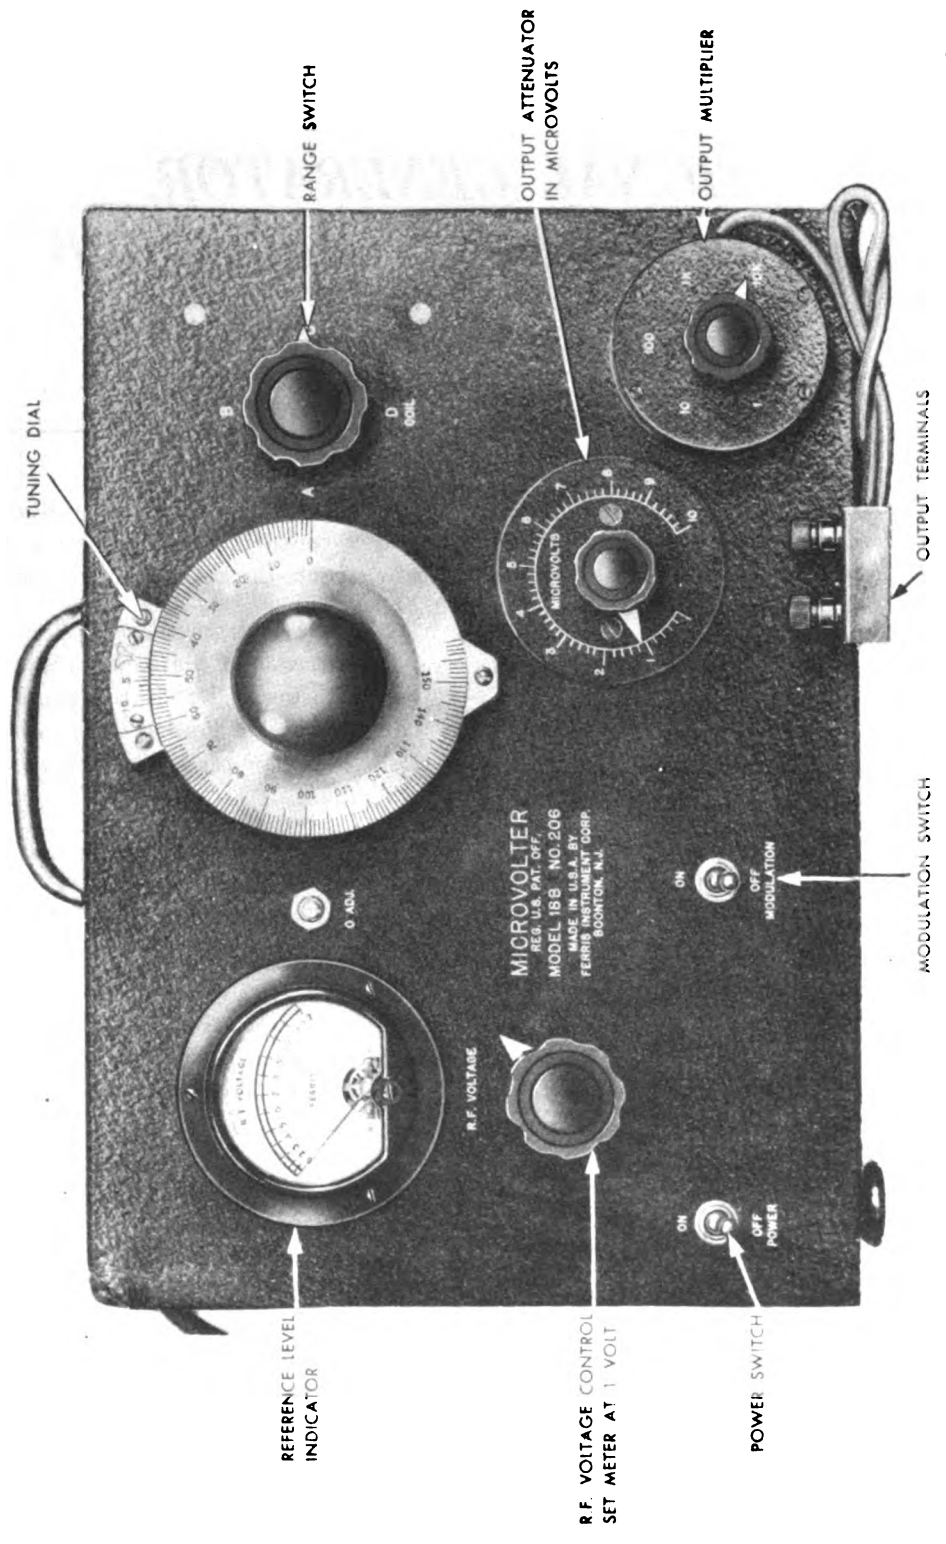

Figure 35. Signal generator, Ferris microvolter model 18-B, panel view.
132. **GENERAL.** The Ferris microvolter, model 18-B, is another type signal generator provided with Test Equipment RC-68-(*). This instrument is a 4-tube, 4-band, ultra-high-frequency signal generator, operative over the frequency band of 18 megacycles to 155 megacycles. The individual frequency bands are: 18 mc to 34 mc, 32 mc to 60 mc, 55 mc to 105 mc, and 100 mc to 155 mc. These lettered band designations appear upon the front panel of the instrument (fig. 35) The schematic diagram of the instrument is illustrated in figure 37.
f. Tuning is done by means of a variable capacitor with a vernier adjustment (fig. 35). Calibration of the device is indicated upon calibration curves supplied with the instrument.
h. Thus, a setting of 5.5 on the microvolt dial (fig. 35), and a setting of 1K on the attenuator knob, represent a signal output of 5.5 microvolts x 1,000 or 5,500 microvolts, assuming the r-f voltage meter to read 1.0 volt. If the MICROVOLTS dial is set at 8.0 and the attenuator is set at 1.0, the output is 8.0 x 1.0 or 8.0 microvolts, etc. If for any reason (such as aging of the r-f oscillator tube) the r-f reference meter reading cannot be brought up to the 1.0-volt mark, reduce the reading to 0.5 volts and multiply by 0.5, the product of microvolt dial times attenuator settings.